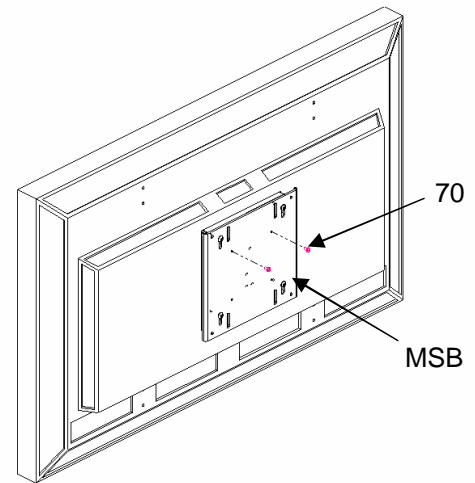
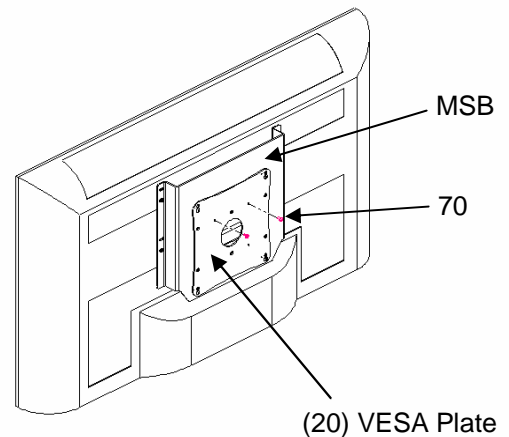

Figure 13. MSB without VESA Plate
Figure 14. MSB with VESA Plate
1. Start two M4 x 8mm Phillips pan head screws (70) into top mounting holes of VESA Plate (20) or MSB interface bracket, depending on configuration (see Figure 13 or Figure 14).